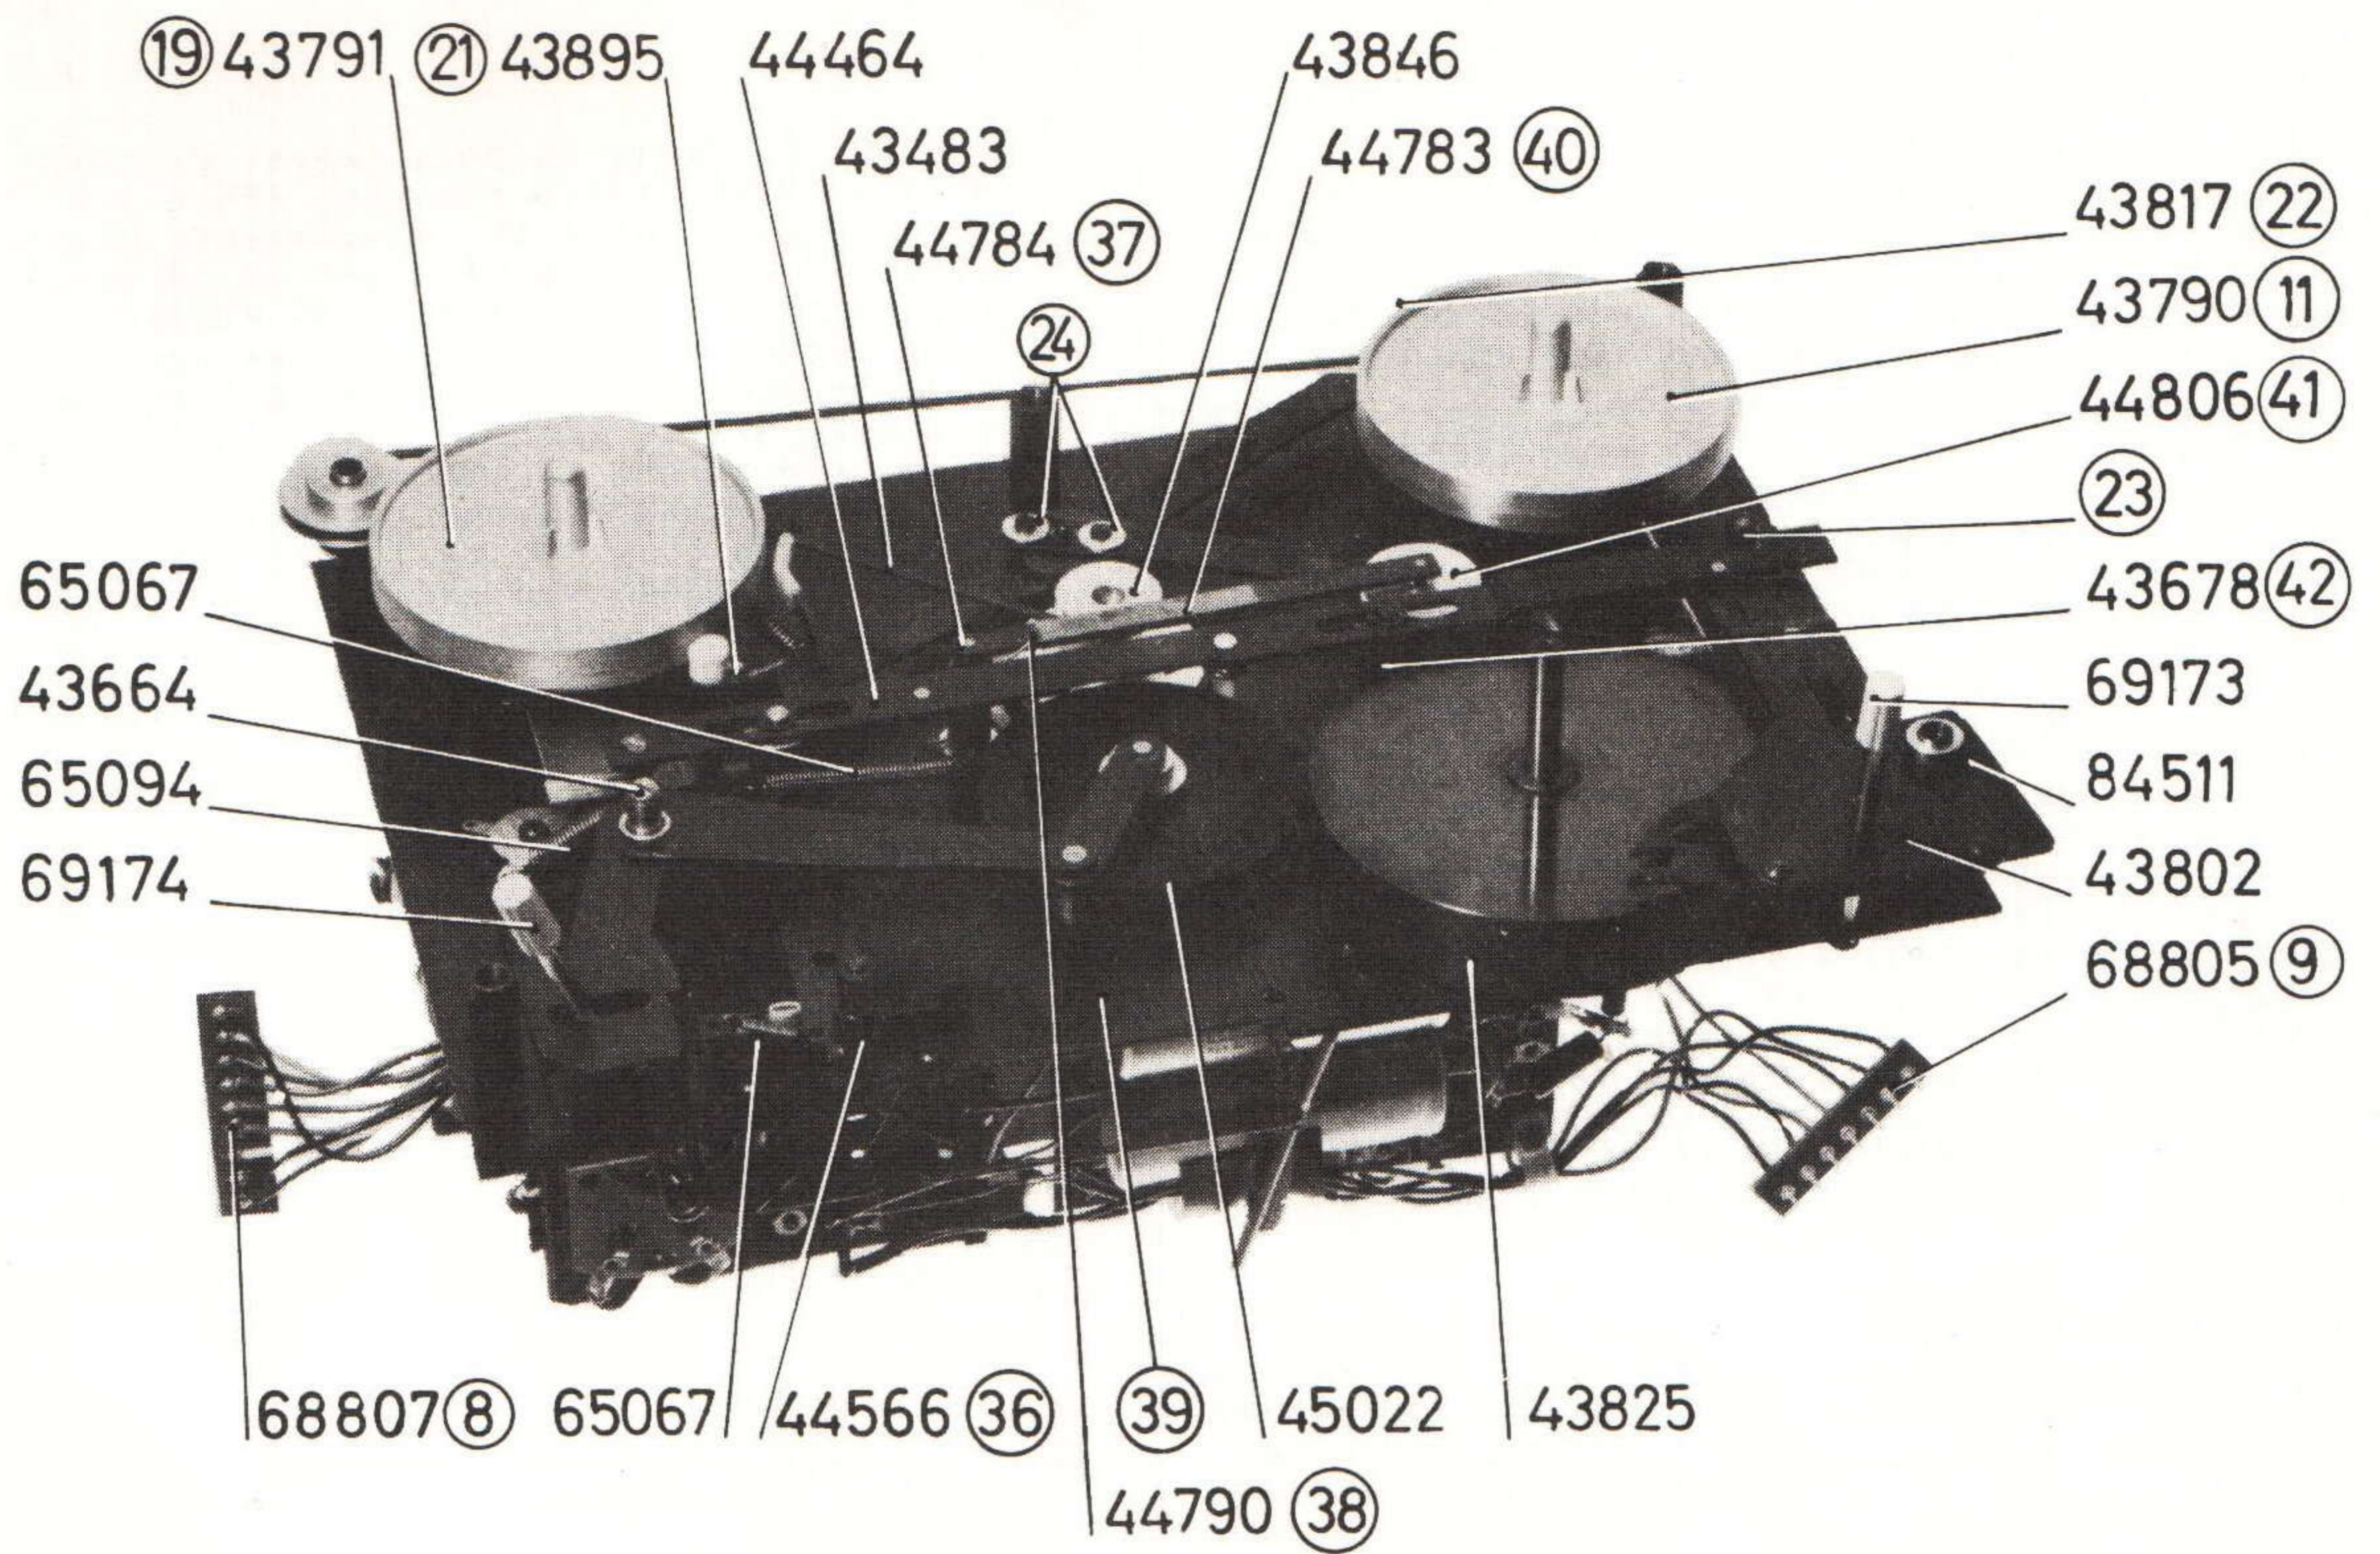

Fig.4
7. BORTTAG ANSLUTNINGSKONTAKTERNA (8 & 9) TILL FÖRSTÄRKAREN. SE FIG. 4.
- A) STOPPBROMSARNA JUSTERAS SÅ, ATT DÅ STARTSPAKEN (12) STÄLLES I LÄGE SNABBT FRAM ELLER SNABBT BACK SKALL DEN VÄNSTRA BROMSFILTEN (21) LIGGA 0,1 - 0,3 MM FRÅN YTTERKANTEN PÅ VÄNSTRA SPOLHJULET (19). DETTA AVSTÅND JUSTERAS GENOM ATT LOSSA DE BÅDA JUSTERSKRUVARNA (24). FÖR SEDAN STARTSPAKEN TILL STOPPLÄGE, VRID VÄNSTRA SPOLHJULET (19) EN ANING MOTURS, VAREFTER DEN HÖGRA BROMSFILTEN (22) JUSTERAS (GENOM BOCKNING), SÅ ATT EN BROMSKRAFT ERHÅLLES PÅ HÖGRA SPOLHJULET, SOM NÅGOT UNDERSTIGER BROMSKRAFTEN PÅ DET VÄNSTRA SPOLHJULET. SE FIG. 4.
- B) KONTROLLERA ATT MANÖVERARMEN (23) LIGGER AN MOT BASPLATTAN (JUSTERAS GENOM BOCKNING). SE FIG. 4